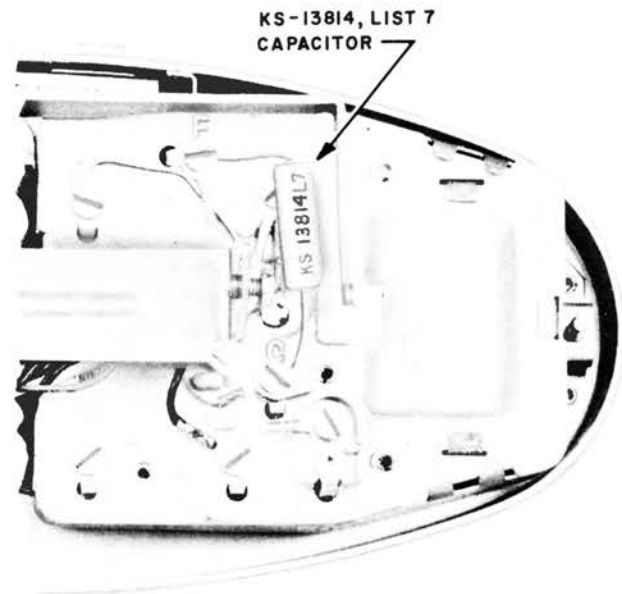

Fig. 10 - 701B or D, 711B Telephone Set, KS-13814, List 7 Capacitor Installed. Dial Removed for Clarity.
4.07 The KS-13814, List 7 capacitor is installed in the 701B, 701D, and 711B telephone sets as shown in Fig. 10. It is connected between the F and C terminals of the 495A network. Cover the exposed portion of the capacitor leads with tubular insulation.